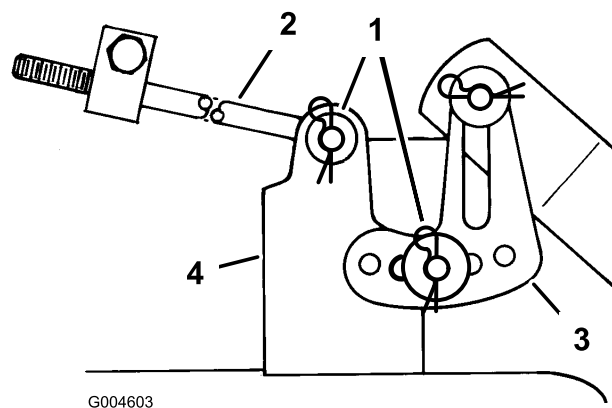

Figure 42
15. Remove the hairpin cotter and washer at the top of the mower leveling bracket (Figure 42).
17. Remove the hairpin cotter and washer from the end of the long rod (Figure 42). Slide the rod out of the mower mount. Repeat this step on the opposite side of the mower.
13. Slide the end of the long rod through the hole in the mower mount (Figure 42).
15. Mount the slotted mower leveling bracket onto the pin on the height-of-cut arm (Figure 42).